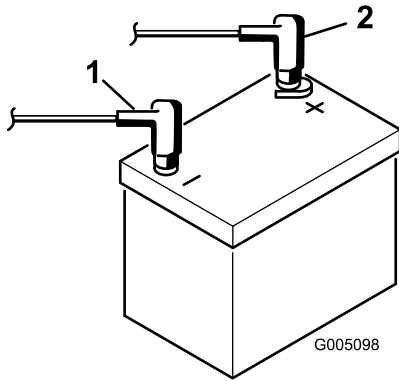

Figure 6
- Connect the positive battery cable (red) from the starter solenoid to the positive post (+) of the battery (Figure 6). Secure it with a wrench and coat the terminal with petroleum jelly. Ensure that the cable clears the seat, in the rear-most position, which could damage the cable.